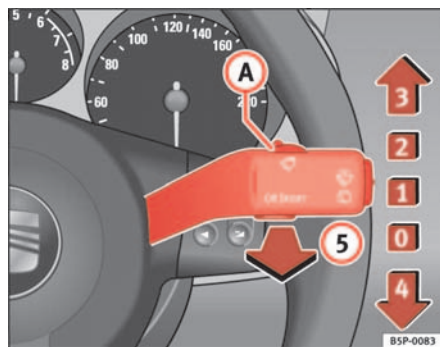

Fig. 84 Windscreen wiper and windscreen wash lever
The windscreen wiper lever ⇒ fig. 84 has the following positions:
- The next speed down will automatically be selected if speed ⇒ page 120, fig. 84 ② or ③ is selected when the vehicle stops. The set speed will be resumed when the vehicle starts again.